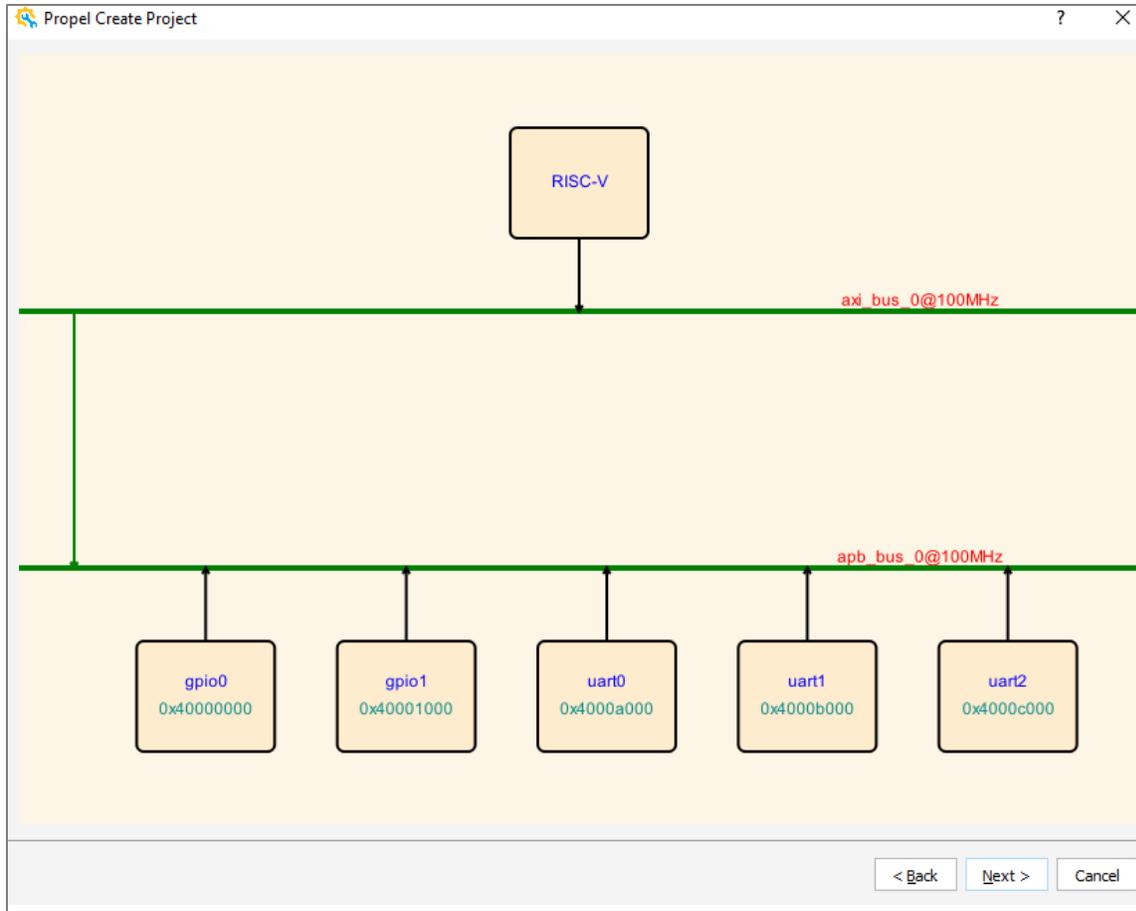

Figure 2.25. Scalable Wizard – System Preview
5. In System Preview Page, there is a straight-forward chart about the current system structure, as shown in Figure 2.25. It demonstrates the system bus type, frequency, the bus connection for each component, component type, number and their address.